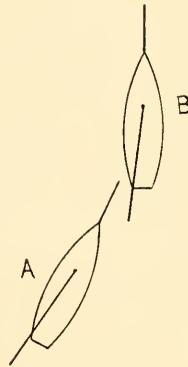

FIG. 71.
Question: (7) Assume that B. was first round the lee mark, and that A. has caught her to windward, does this fact make any difference? (Figs. 71 and 72).